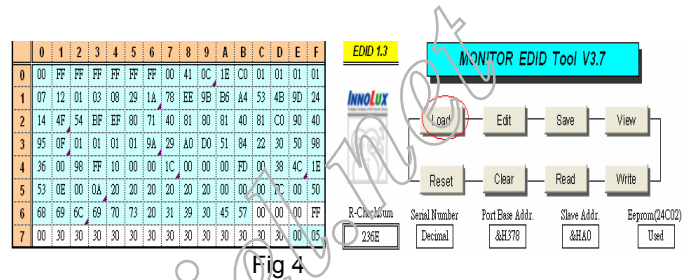

Fig 4
4. Double press the "H00" file or "H01 file" ,then it acquires the hex file automatically, and a message will be showed in the dialog box to notice the operator . At this moment, please verify the checksum of the hex file with the firmware control table to make sure the suitable file will be used. Mentioned firmware control table will be provided by suppliers shown in Fig. 4.